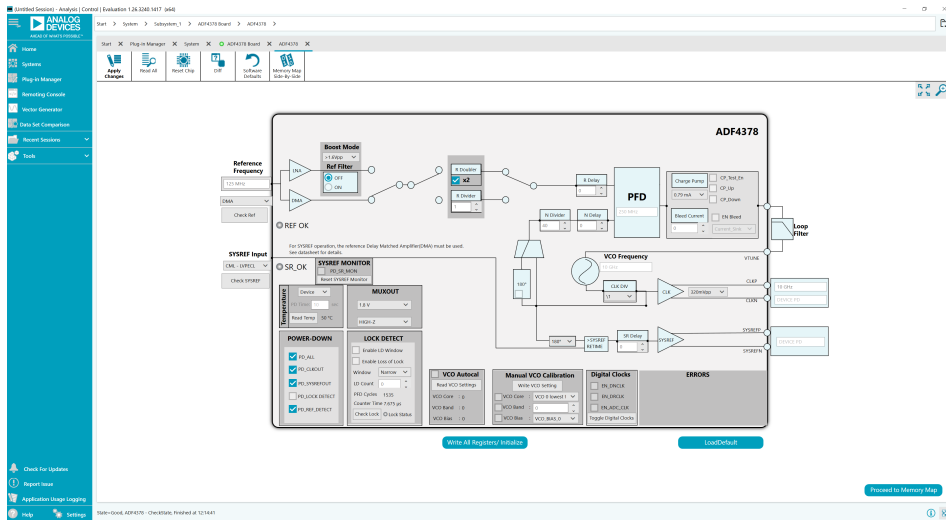

Figure 5. Main Page
All components necessary for local oscillator (LO) generation are installed on the EV-ADF4378SD1Z. The EV-ADF4378SD1Z is shipped with an 125 MHz crystal oscillator (XO), the ADF4378 synthesizer with an integrated VCO, and a 650 kHz loop filter (charge-pump current (I_{CP}) = 11.1 mA) at 10 GHz. When the EV-ADF4378SD1Z is powered-up and connected to the ACE software, click the **LoadDefault** and **Write All Registers/ Initialize** buttons, as shown in Figure 5, which provides a 10 GHz output clock on both clock output channels.
The main controls are available in the high-level register map, as shown in Figure 5. To modify registers, do the following steps:
Run the software and follow the steps shown in the Evaluation Board Software section to open the main page, as shown in Figure 5.